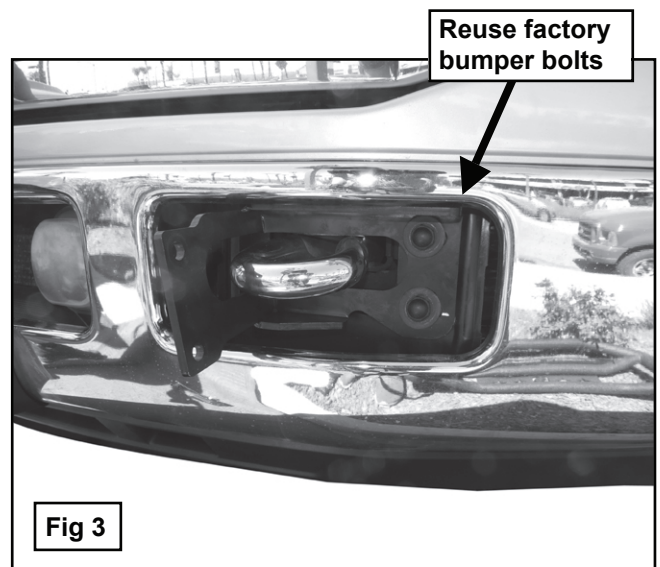

Fig 3
Place the driver side Mounting Bracket onto the vehicle, (Fig 2), and line up the (2) slots with the (2) holes for the bumper bolts. Insert the factory bumper bolts through the Bracket and bumper, (Fig 3).